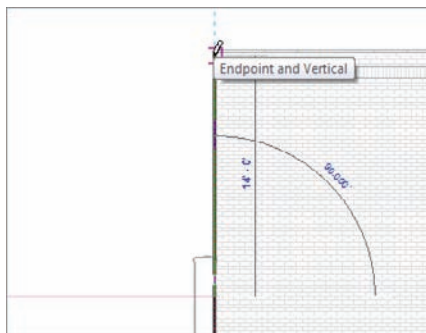

FIGURE 3.46 Drawing another line from Level 3 to the bottom of the parapet
10. Now, draw the line straight up the wall, to the top. Make sure you do not snap to the top of the parapet. The point you want is to the top of the brick, as shown in Figure 3.46. (All you are doing here is sketching the profile of the wall.)